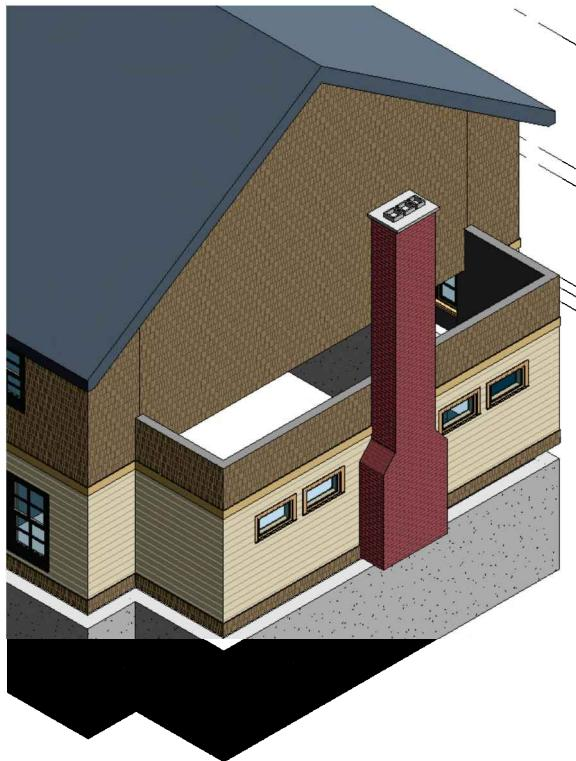

FIGURE 8-2.7 3D View; wall attached to roof
17. Select the ***Attach Top/Base*** button from the **Ribbon**, then **select the roof** (Figure 8-2.7).